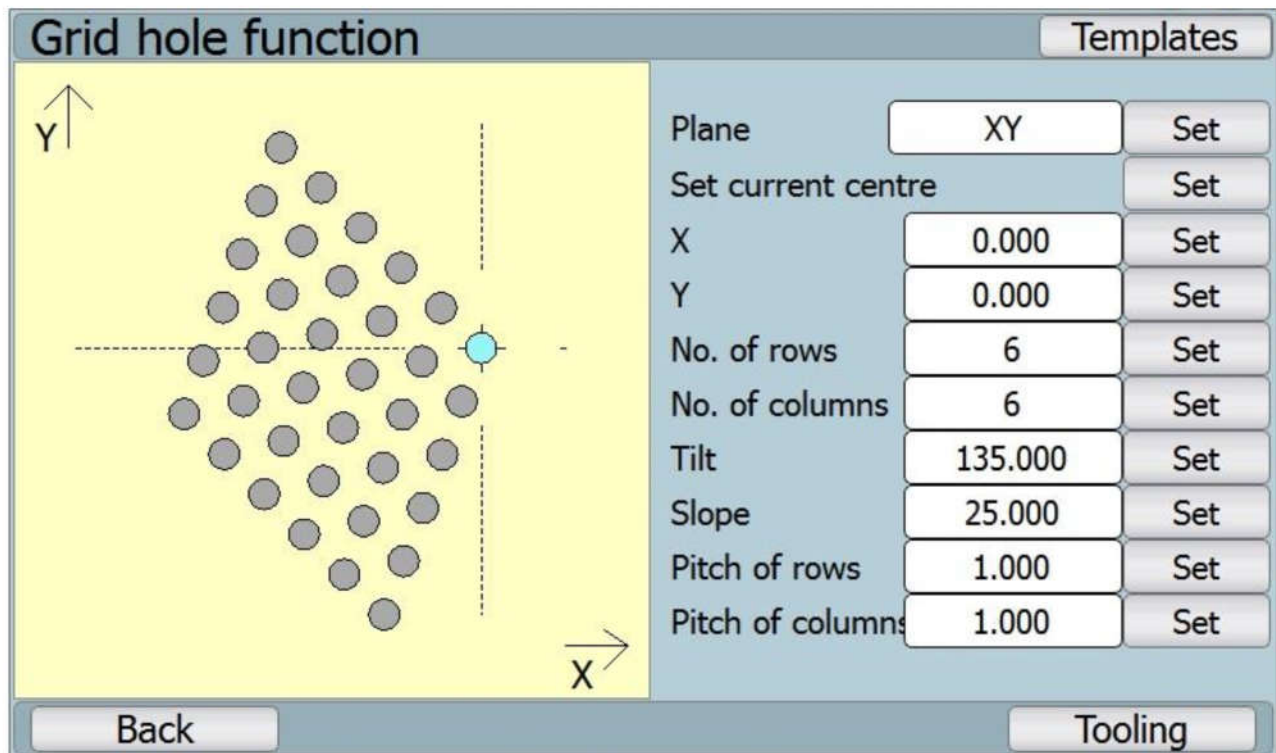

Fig. 19: Hole drilling on line – machining mode
- ⑩ Use buttons „Predchozi“ (former) and „Dalsi“ (next) to switch between individual holes (see fig. 19: Hole drilling on line – machining mode).
- ⑩ The right side displays the coordinates between the tool (red cross) and marked hole (green).
- ⑩ According to the selected plane (in this case XY) it is necessary to load in such way the coordinates X and Y displayed zero. It indicates that the tool is placed exactly above the hole.
- ⑩ Axes Z and W are for orientation purposes and can be reset (set to zero), for better depth designation.